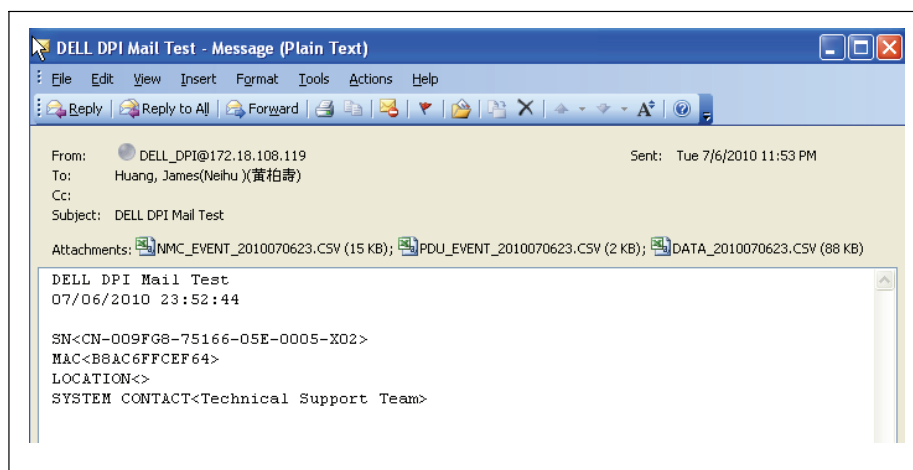

Figure 35. Email Notification Test for Mail Type Daily Status
- 5 Optional. Click **Send Test** to send a test Email to the recipients according to the Mail Type setting (see Figure 35 and Table 19).